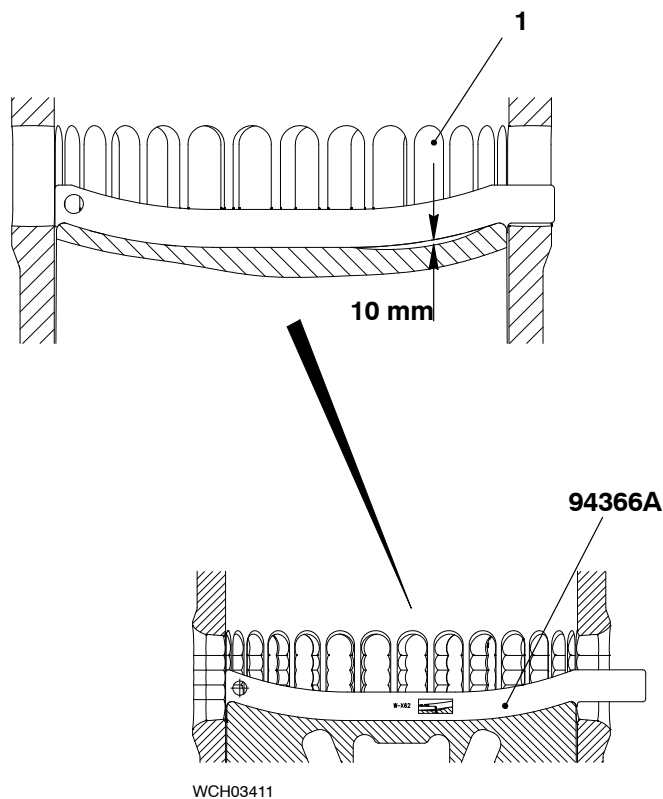

Fig. 2
- 2) Look at the piston head through the scavenge ports (1, Fig. 2) to find burn scars.
- 3) Put the template (94366A) through the related scavenge port (1).
- 6) If there are more burn scars, put the template (94366A) through the related scavenge port (1) and do step 3) and 4) again.